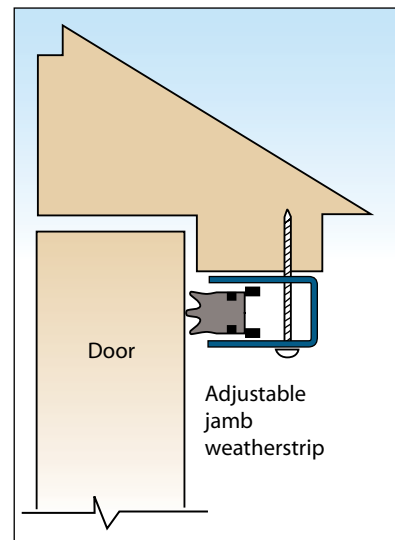

Figure 2. Example of adjustable weatherstripping (FEMA 577).
- To avoid embers and hot gases penetrating the interior of the building between the door and the door frame, install adjustable weatherstripping on the interior side of the door frame and specify and install an automatic door bottom or threshold weatherstripping. The weatherstripping and door bottom should be tested in accordance with UL Standard 10C. Weatherstripping is relatively inexpensive (see Figure 2).